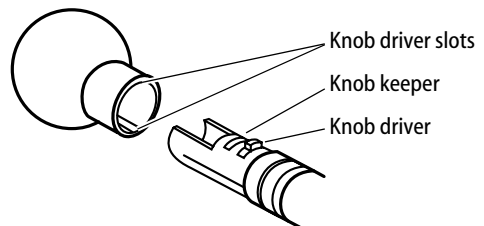

Figure 8 Installing the inside keyed knob
- Align either of the knob driver slots with the knob driver in the sleeve as shown in Figure 8. Firmly push the knob on until seated.